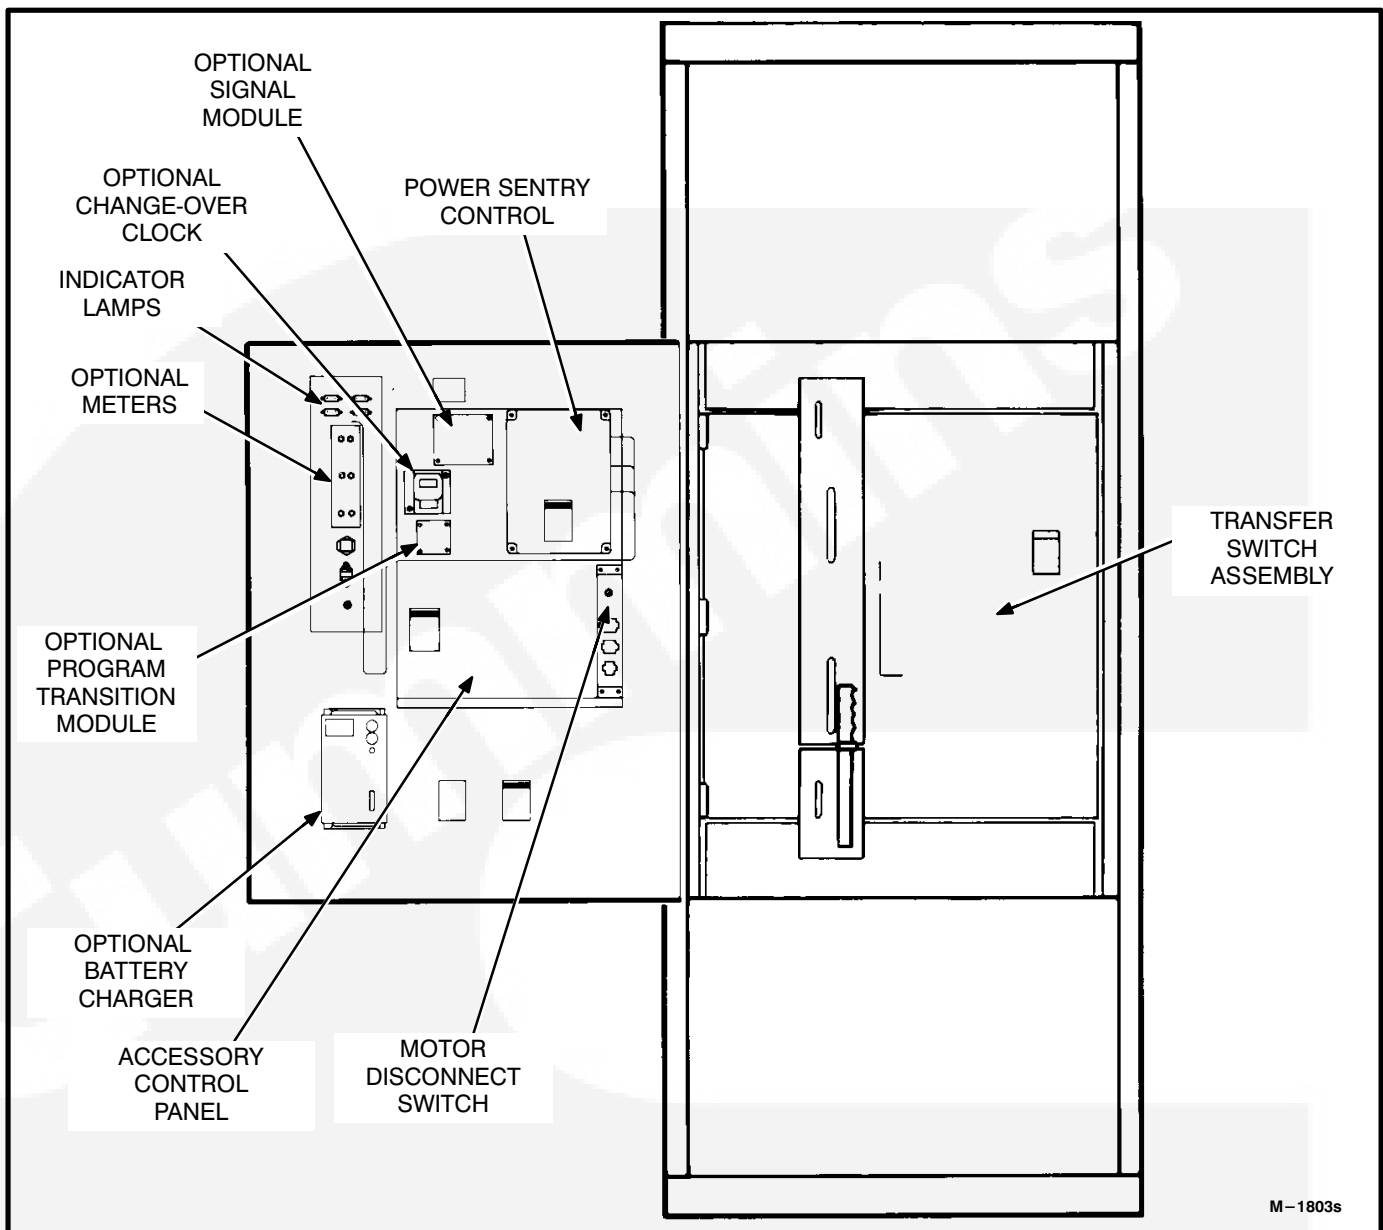

FIGURE 2-2 INTERIOR/COMPONENTS
The transfer switch (Figure 2-2) opens and closes the contacts that transfer the load between source 1 and source 2 generator sets. The transfer switch is mechanically interlocked to prevent simultaneous closing to both power sources. The main parts of the transfer switch discussed here are the contact assemblies, linear actuators, Motor Disconnect switch, and auxiliary contacts.
**Place the Motor Disconnect Switch (Figure 2-2) in the Off position when making adjustments. Return the switch to the Auto position after adjustments are completed.**